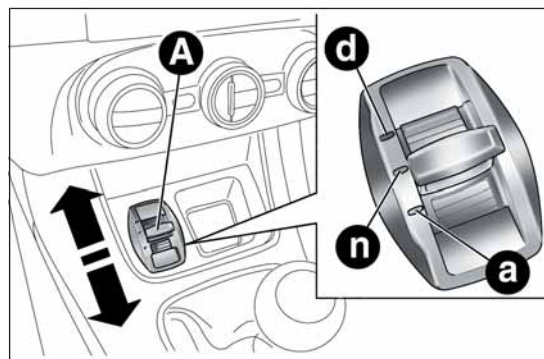
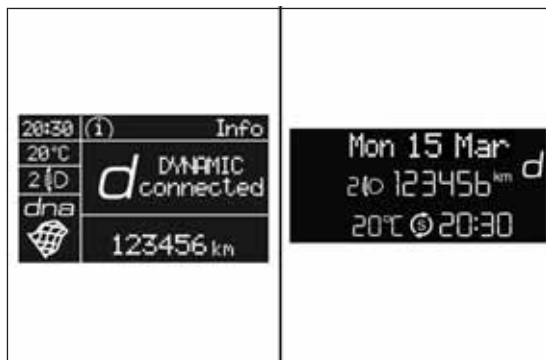
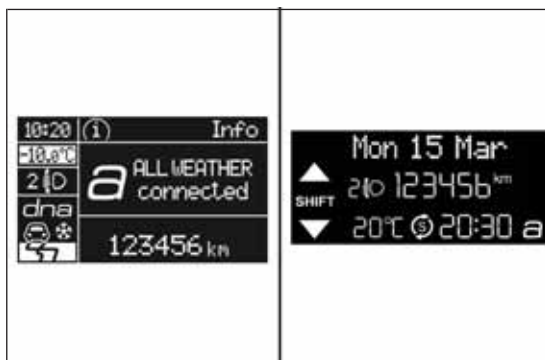

fig. 82
fig. 85
fig. 87
This device allows, using lever A fig. 82 (on the central tunnel), three car response modes to be selected according to driving style and road conditions:
When lever A fig. 82 is moved to "d" position, the activation of "Dynamic" mode is confirmed by a temporary variation in the brightness (flashing) of the instrument panel.
Move the lever A fig. 82 upwards (next to the letter “d”) and hold in this position for 0.5 seconds until the corresponding LED lights up or the word “Dynamic” appears on the display (see fig. 85).
Move lever A fig. 82 downwards (to the letter "a") and hold in this position for 0.5 seconds until the corresponding LED lights up or the word "All Weather" appears on the display (see fig. 87).
To deactivate "All Weather" mode and return to "Natural", carry out the same procedure described for "Dynamic" mode, but move lever A fig. 82 to "a".
- ❑ In the event of system failure or a fault with lever A fig. 82, no driving modes can be selected. The display will show a warning message.